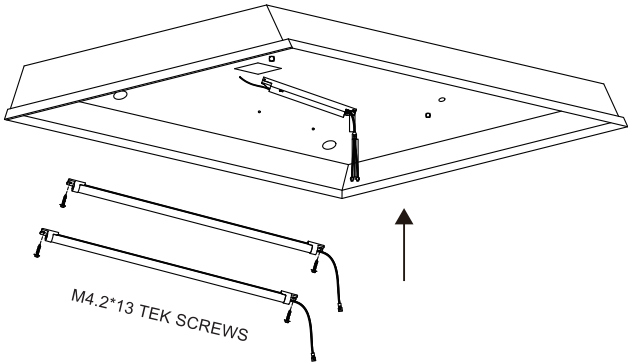

Figure 2
- 5) Place the LED driver and LED Light Bar into the fixture with magnets facing up. Secure the LED Light Bar and LED Driver to the fixture using self-tapping screws (Figure 2).